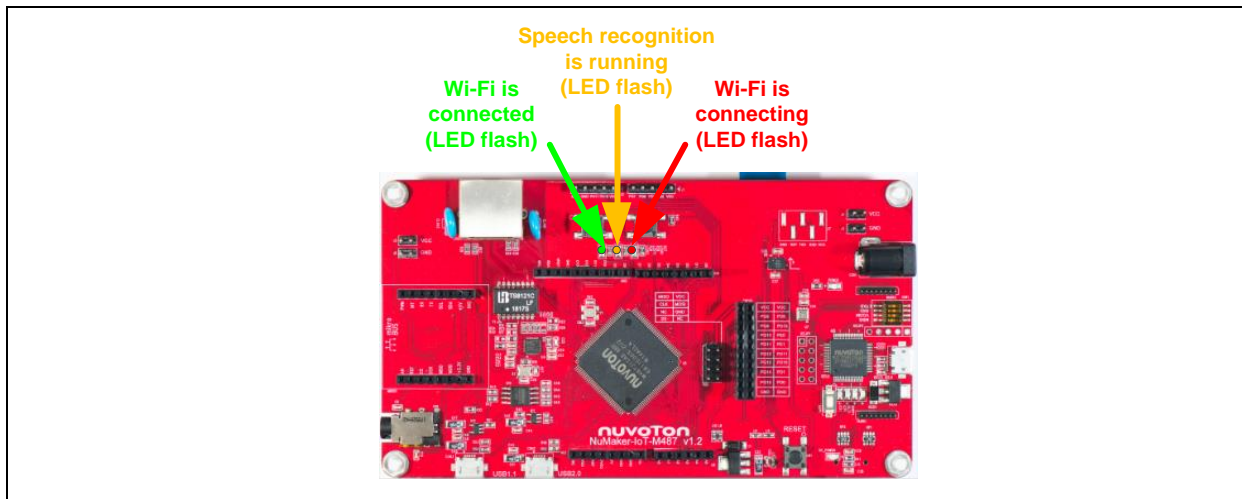

Figure 1-12 Indicated LED on NuMaker-IoT-M487 Board
- Check the LED status on the NuMaker-IoT-M487 board that shown as the following Figure 1-12. When the red LED is flashing, it means that the Wi-Fi module is trying to connect with the hotspot. When the green LED is flashing, it means that the Wi-Fi has connected with the hotspot and this firmware of M487 chip on this board is ready for speech recognition application. When the yellow LED is at OFF state, it means that this board is ready to receive the speech from the microphone input. When the yellow LED is flashing, it means that this firmware of speech recognition is running.